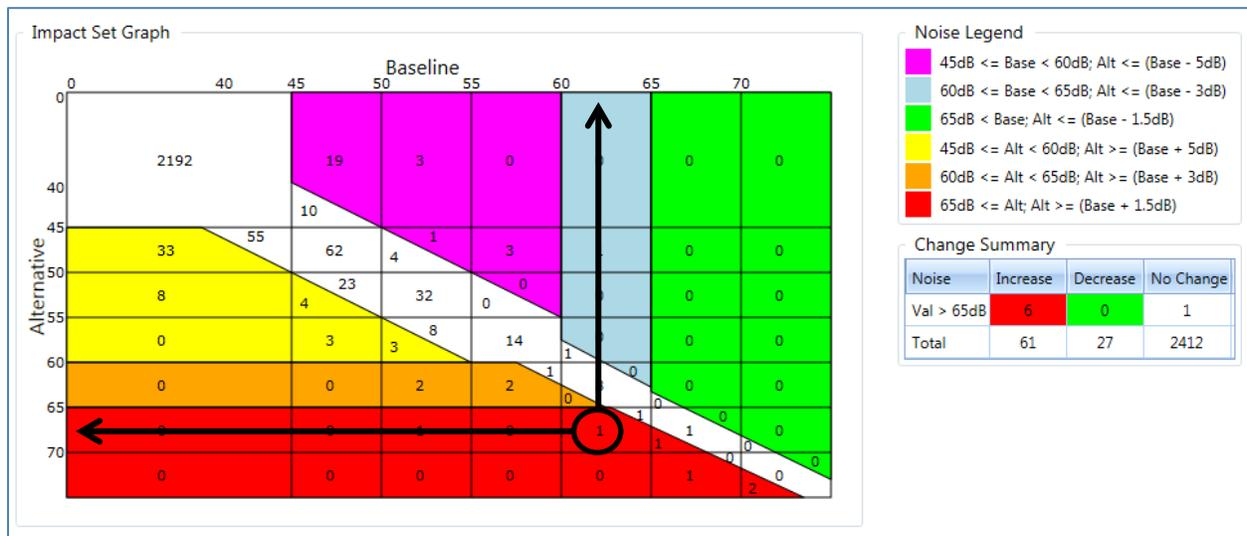

Figure 5-60 Sample Impact Set Graph
2. The color coding of warm (red, orange, and yellow) and cool (purple, blue, and green) colors allows easy reference when there has been a reduction or an increase in noise (Figure 5-60).
3. Example (Figure 5-60):